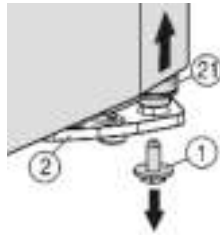
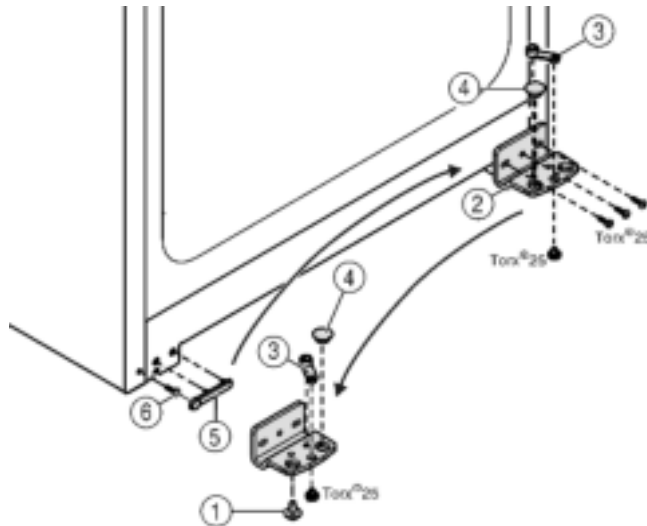

Fig. 4
Fig. 5
- ▷ The bearing pin *Fig. 4 (21)* should come out of the turn hinge *Fig. 5 (2)*.
- ▶ If the bearing pin *Fig. 4 (21)* does not come out, press the pin out from underneath.
- ▶ Unscrew the turn hinge *Fig. 5 (2)*.
- ▶ Unscrew the bearing element, *Fig. 5 (3)* transfer it to the opposite location hole of the turn hinge and screw it firmly into place.
- ▶ Take the stopper *Fig. 5 (4)* out of the turn hinge and transfer it to the receiving hole on the opposite side of the turn hinge.
- ▶ Carefully lift off the cover *Fig. 5 (5)* on the handle side.
- ▶ Undo the screw *Fig. 5 (6)* and transfer it to the opposite side.
- ▶ Put the cover *Fig. 5 (5)* back on.
- ▶ Screw the turn hinge *Fig. 5 (2)* firmly into place on the new hinge side (**with 4 Nm**), possibly using a power screwdriver.
- ▶ Insert the securing screw *Fig. 4 (1)* at the bottom into the bearing pin and tighten it (**with 4 Nm**).